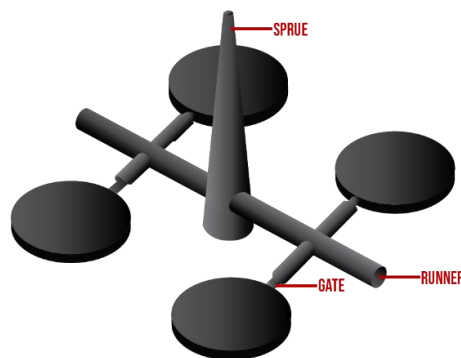

Figure 1: Sprue, runner, and gate
- (1). Figure 1 shows the important part of injection moulding for cold runner system.
- (a). State the function of each part in Figure 1. Describe the advantages and disadvantages of the cold runner system.